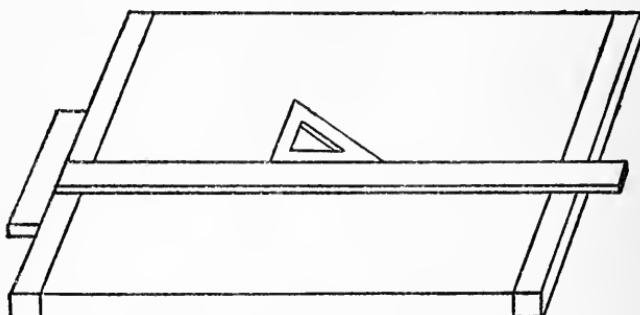

FIG. 47. THE T SQUARE AND TRIANGLE ON THE DRAWING BOARD
The T square is laid with the *head*, that is the short thick piece, against the left hand edge of the drawing board which brings the *blade*, that is the long thin piece flat on and across the board. The triangle is placed against the straight edge. The triangle is laid on the board with one of its edges against the blade of the T square as shown in Fig. 47.
(2) Take a sheet of white paper exactly $5\frac{1}{8}$ inches wide and 10 inches long and draw two diagonal lines from corner to corner so that they will cross each other, than draw a vertical line through the middle and a horizontal line near the bottom. The diagonal and horizontal lines will be 30 degrees apart.
(3) By laying a 30 degree triangle on your T square and drawing a line along the 30 degree side of it as
shown in Fig. 47; and (4) by laying off 30 degree lines with a protractor.